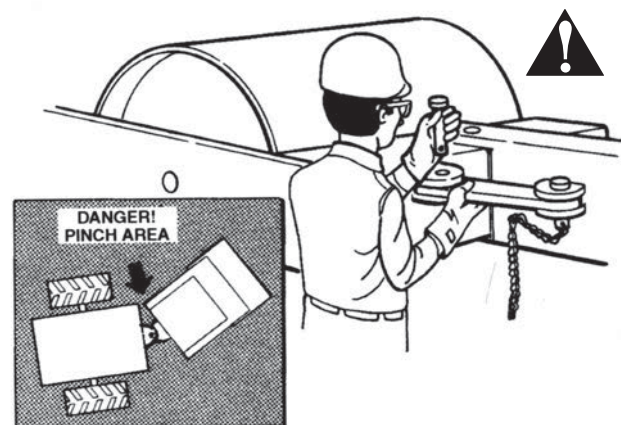

FIG. 33
- Before working in the pivot or "pinch" area of an articulated machine, securely attach the steering frame lock to prevent the machine from turning. (FIG. 33) Enter this area only when necessary.